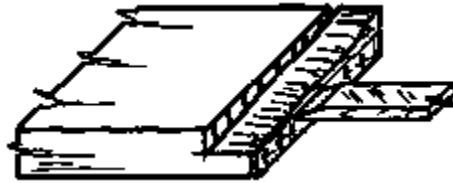

Fig. 5
- Remove the waste carefully to the gauge line with a firmer chisel (Fig. 5). Find out the direction of the grain by chiselling out small pieces first, so that you don't accidentally chisel too deep.